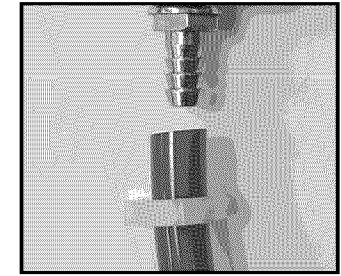

Fig. 11
6. Attach one end of the red air hose to the hose barb on the CO₂ regulator, using one of the two snap clamps provided (Fig. 11). Use pliers to snap the clamp tight to assure that there is no gas leak.